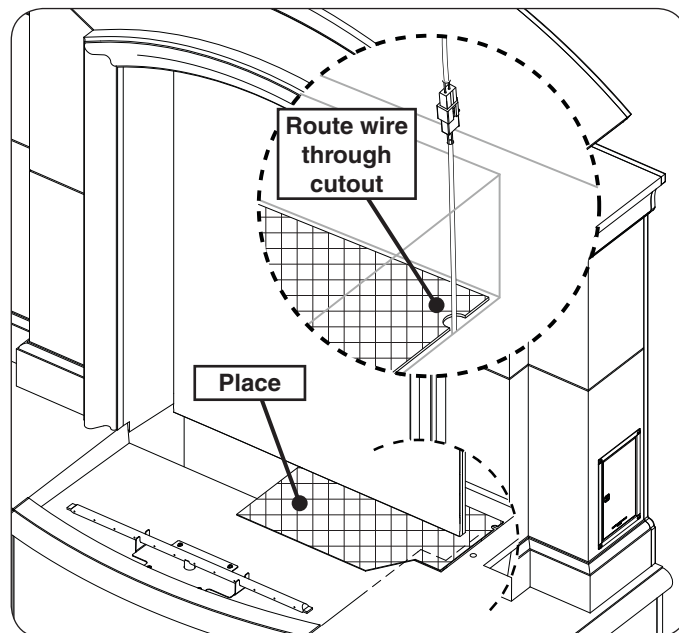

Fig. 25-1 Place right screen
1. Locate the supplied screens. Place the right screen as shown in Fig. 25-1.